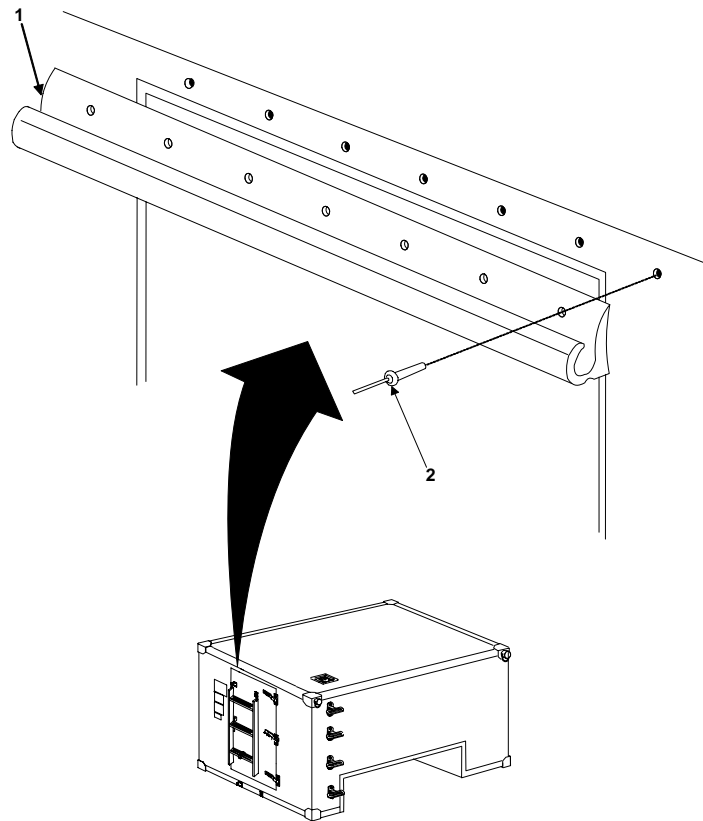

Figure 1. Door Drip Molding.
4. Remove drip molding (figure 1, item 1).
1. Locate drip molding (figure 1, item 1) to shelter and insert seven rivets (figure 1, item 2) through holes in drip molding (figure 1, item 1) and into holes in shelter.
2. Using a pop-rivet tool, secure drip molding (figure 1, item 1) to shelter.
3. Reapply sealant around periphery of drip molding (figure 1, item 1).